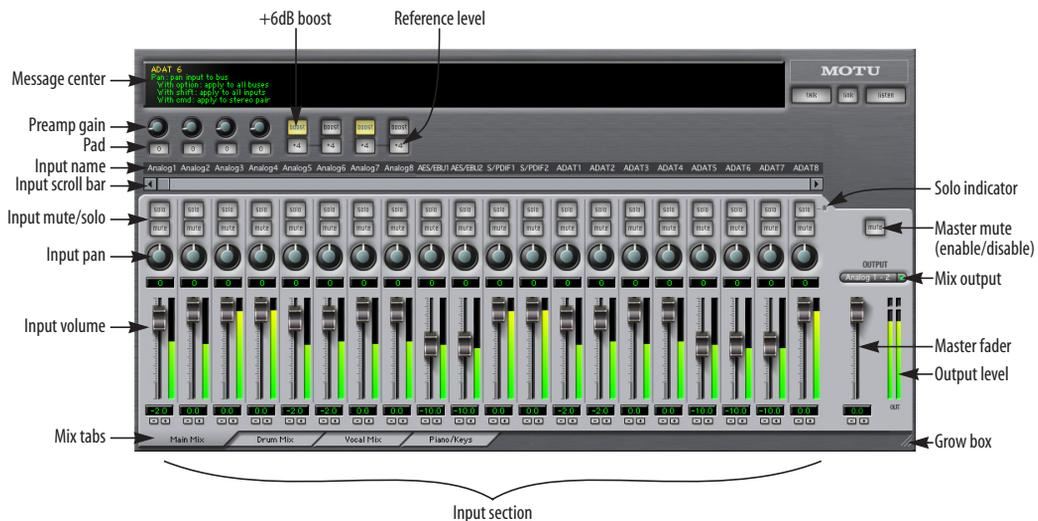

Figure 10-1: CueMix Console is a virtual mixer that gives you control over the Traveler's on-board mixing features.
CueMix Console displays one mix at a time. To select which mix you are viewing, click its tab at the bottom of the window, as shown in Figure 10-1. The mix name appears in the tab. Double-click the name to change it.
To view a mix, click its tab at the bottom of the window, as shown in Figure 10-1. The mix name appears in the tab.
The master mute button (Figure 10-1) temporarily disables (silences) the mix.
The master fader (Figure 10-1) controls the overall level of the mix (its volume on its stereo output). Use the individual input faders to the left to control individual input levels.
To add an input to a mix, or remove it, click its MUTE button. To solo it, use its SOLO button. To toggle these buttons for a stereo pair, hold down the control key while clicking either channel. The Solo indicator LED (Figure 10-1) lights up when any input is soloed (including inputs that may currently be scrolled off-screen).
Use the input fader and pan knob (Figure 10-1) to adjust these settings for the input in the mix. Again, all settings within the gray-shaded channel strip area belong to the mix currently being viewed. Note that an input can have different settings in different mixes.
- 1 Select the source mix (Figure 10-1) and choose Copy from the file menu (or press control-C).
The preamp gain, pad, reference level and +6dB boost settings at the very top of the CueMix Console window (Figure 10-1) affect each input globally, across all mixes and for audio being routed to the computer. For example, if you add 6dB of boost, your host software will receive the boost for that input as well.
This setting (Figure 10-1) adjusts preamp gain, just like the four trim knobs on the front panel of the Traveler.
These buttons (Figure 10-1) toggle the pad for each mic input. Clicking these buttons is the same as pushing the trim knobs on the front panel.
This setting (Figure 10-1) adds 6 dB of gain to the input signal. This setting is applied globally for the input.